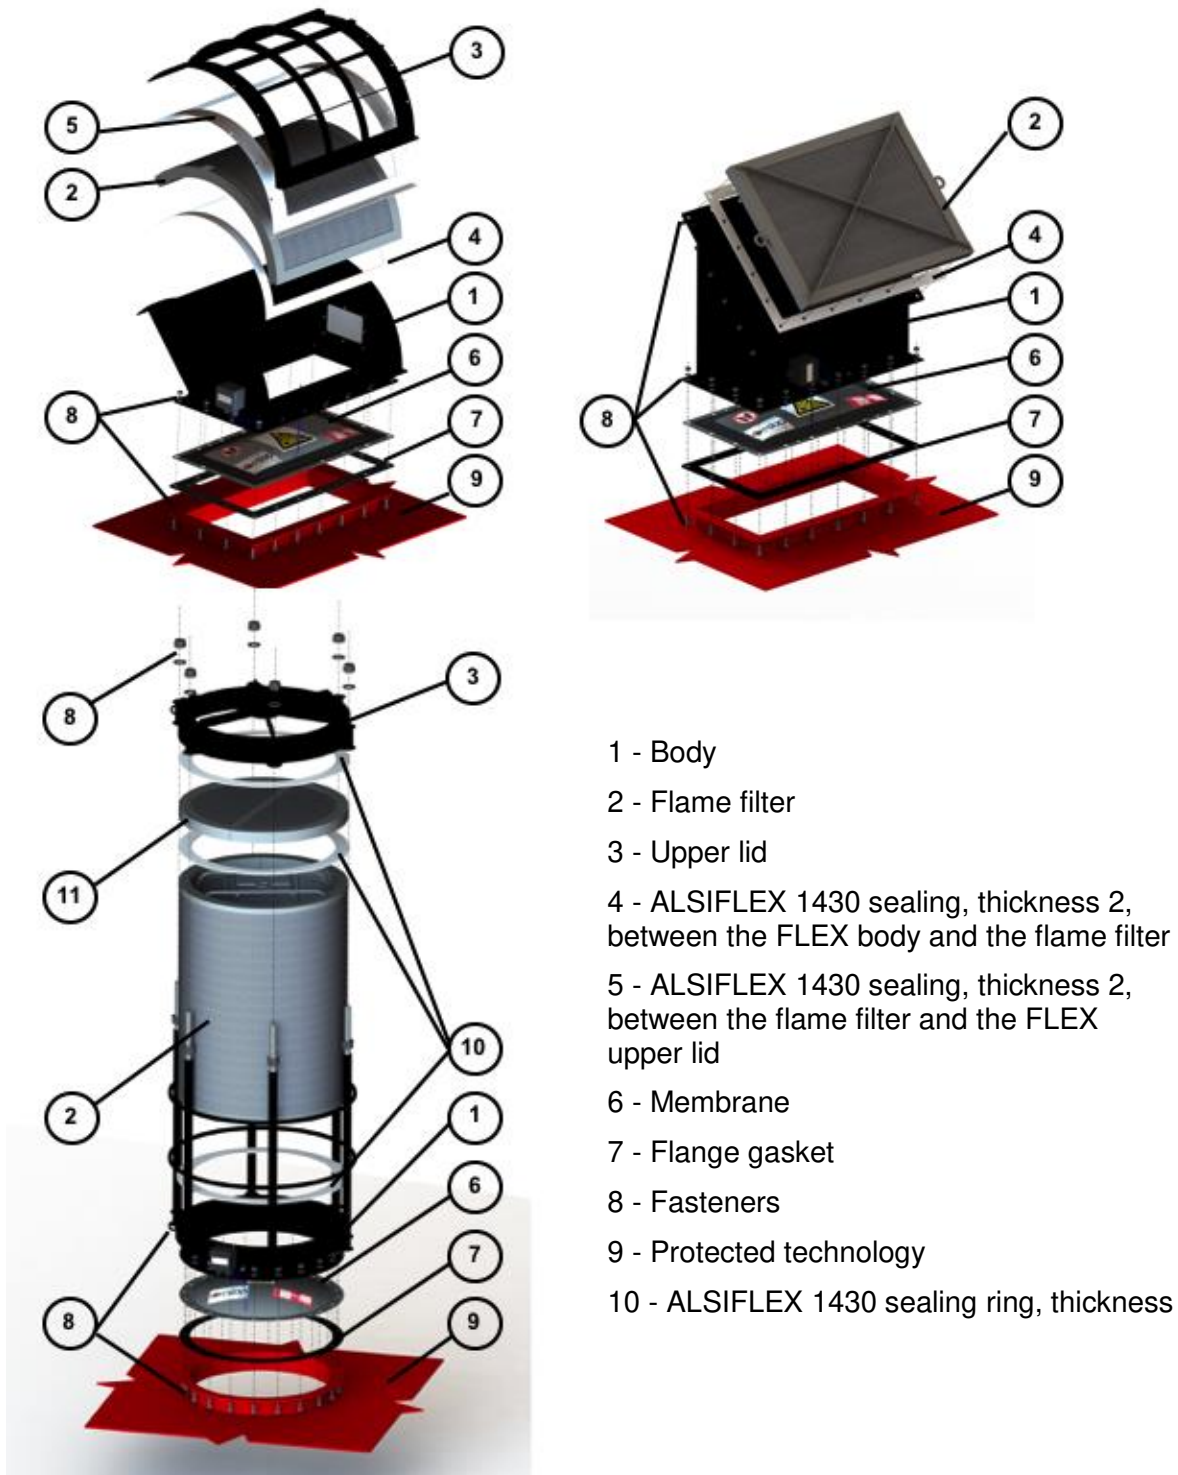

Fig. 15 - Exploded View
- 6) In two places in FLEX, in the vicinity of the flame filter, there are two ALSIFLEX 1430 (thick. 2) gaskets applied (see fig. 15). If these gaskets are not damaged or polluted after the explosion, or if their integrity is not infringed, there is no need to change them. Otherwise, replace them with the new ones.
- 6) The ALSIFLEX 1430 (thick. 2) gasket is applied on the FLEX body under the flame filter (see fig. 15). If this gasket is not damaged or polluted after the explosion, or if its integrity is not infringed, there is no need to change it. Otherwise, replace it with a new one.
- 6) All metal-metal interfaces of this series FLEX are fitted with the gaskets of ALSIFLEX 1430 (thickness 10) (see fig. 15). These gaskets must always be replaced.
Below, in fig. 15, there is an exploded diagram of each FLEX design